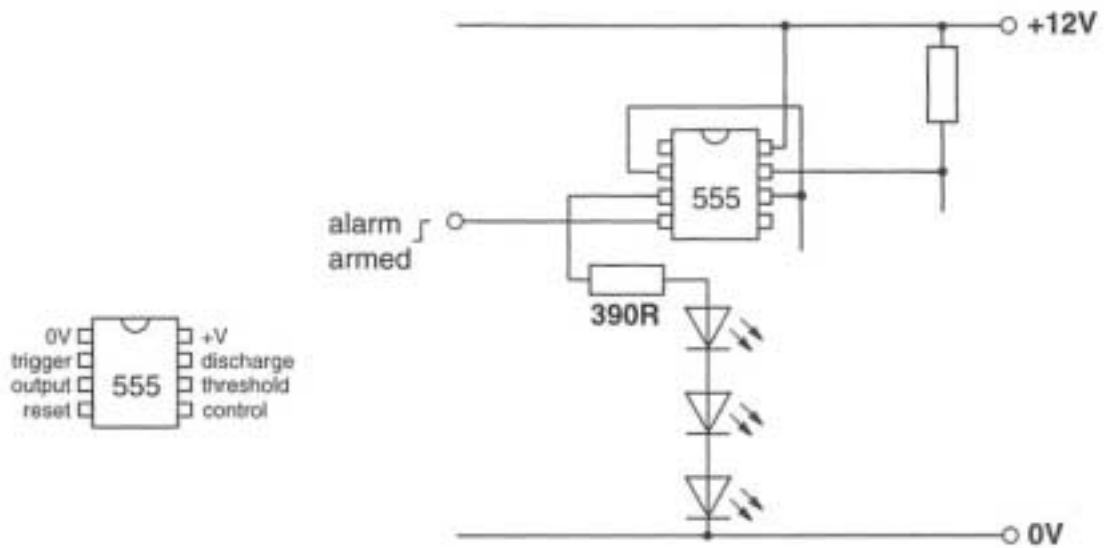

Fig. 7.
- (i) Complete the astable circuit shown in Fig. 7. [4]